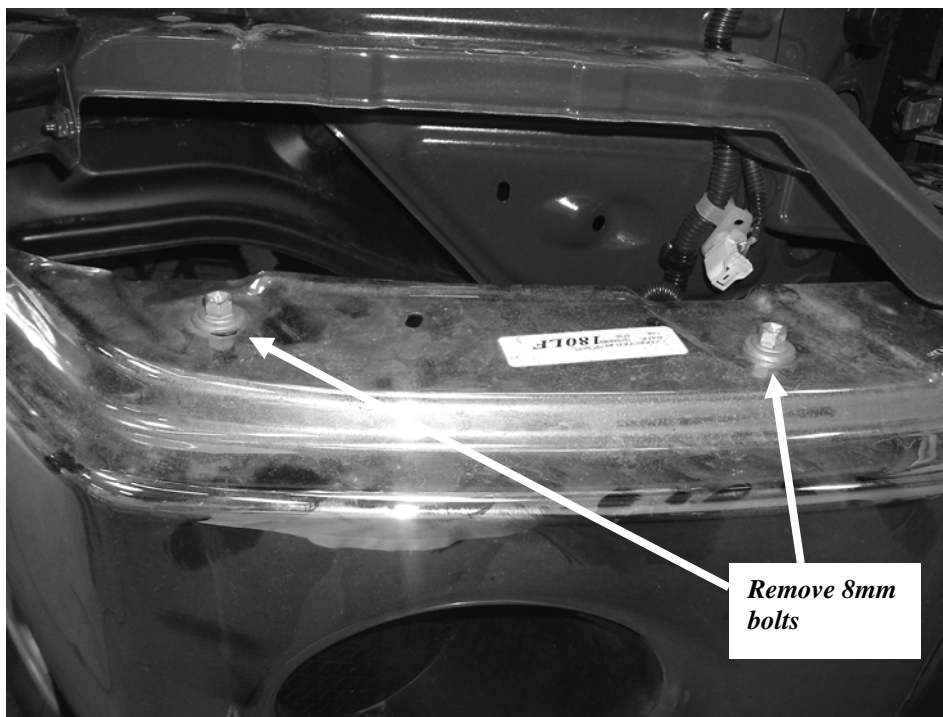

Figure 7 Bumper top RH
11. Remove the two(2) 8mm bolts from the top of each end of the bumper. Remove the bumper. **Figure 7**